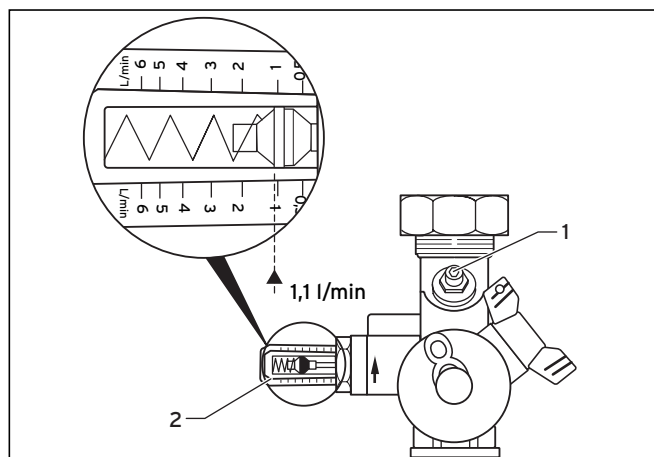

Fig. 6.2 Setting the flow rate
- Use an Allen key to finely adjust the flow rate at the adjustment valve (see Fig. 6.2 Pos. 1).
The installed (net) collector surface area for 3 VTK 570 units is 3.0 m². When multiplied by the specific volume flow value of 0.4 l/m²•min, this produces a calculated flow rate of 1.2 l/min. This should be displayed at the flow rate meter (see Fig. 6.2).